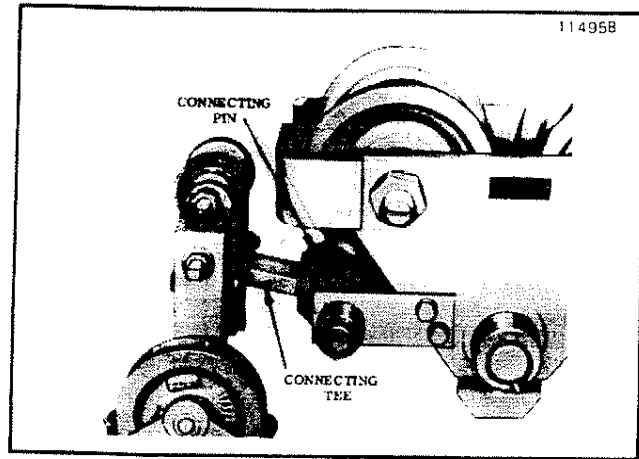

Figure 2-1. Connecting Track Clamp to HI-CAP Trolley .
2-2. If Track Clamp is attached to hoist or trolley, separate by removing cotter pin and connecting pin from connecting tee (figure 2-1).
a. Remove cotter pin and connecting pin (Figure 2-1) from connecting tee and disconnect clamp from trolley or hoist.